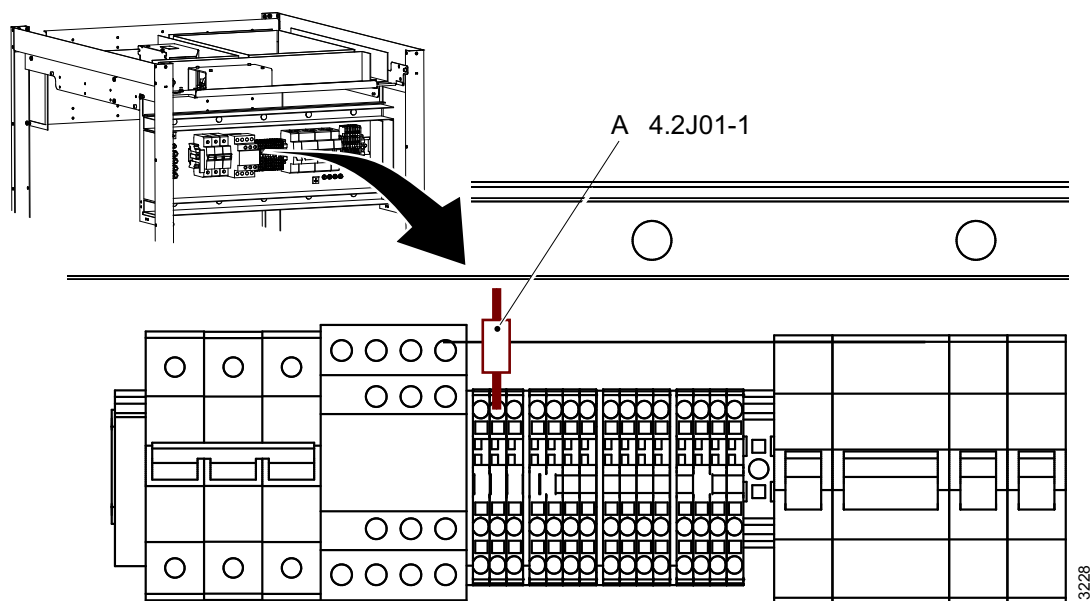

Fig. 4-85
Make sure the wire (A) is connected according to **Fig. 4-85**.